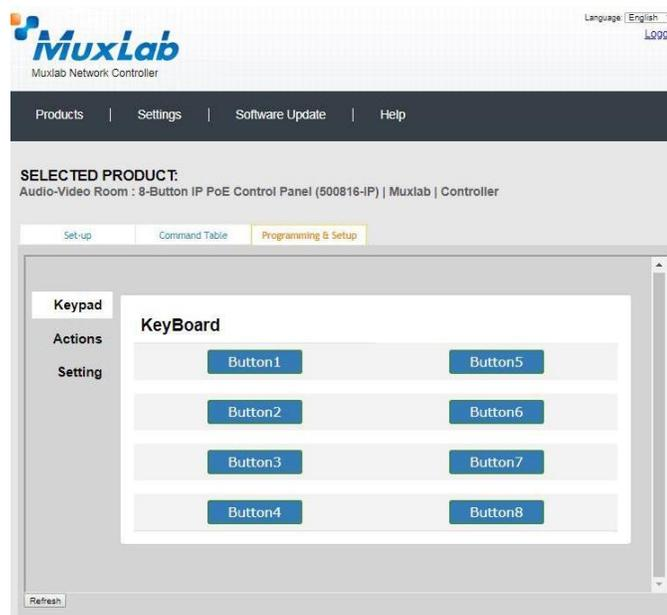

Figure 480: Programming & Setup Tab – Keyboard
- Keyboard: Allows the user to simulate a button press on the 500816-IP from a computer screen (Figure 480). This can be used to test a button that has just been programmed in “Actions”.